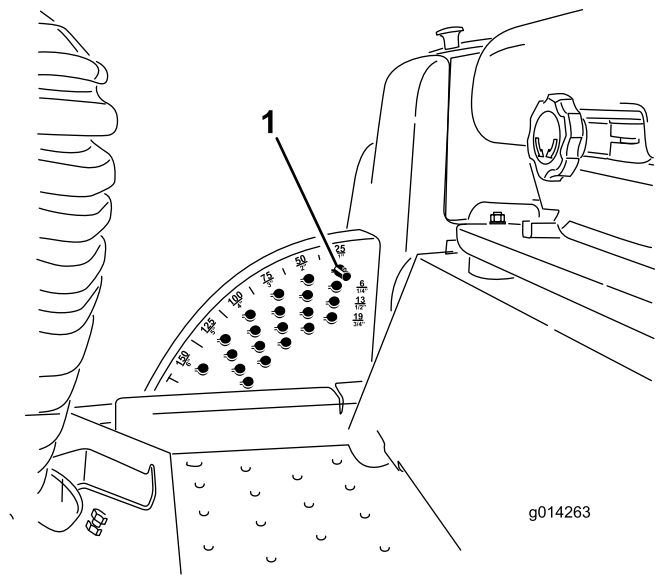

Figure 26
1. With the engine running, push back the deck-lift switch until the mower deck is fully raised and **release the switch immediately** (Figure 26).
2. Rotate the stop pin until the nub on it lines up with the slots in the holes in the height-of-cut bracket and remove it (Figure 26).
3. Select a hole in the height-of-cut bracket corresponding to the height-of-cut desired, insert the pin, and rotate it down to lock it in place (Figure 26).
Note: There are 4 rows of hole positions (Figure 26). The top row gives you the height of cut listed above the pin. The second row down gives you the height listed plus 6 mm (1/4 inch). The third row down gives you the height listed plus 12 mm (1/2 inch). The bottom row gives you the height listed plus 18 mm (3/4 inch). For the 15.8 cm (6 inch) position, there is only 1 hole, located in the second row. This does not add 6 mm (1/4 inch) to the 15.8 cm (6 inch) position.